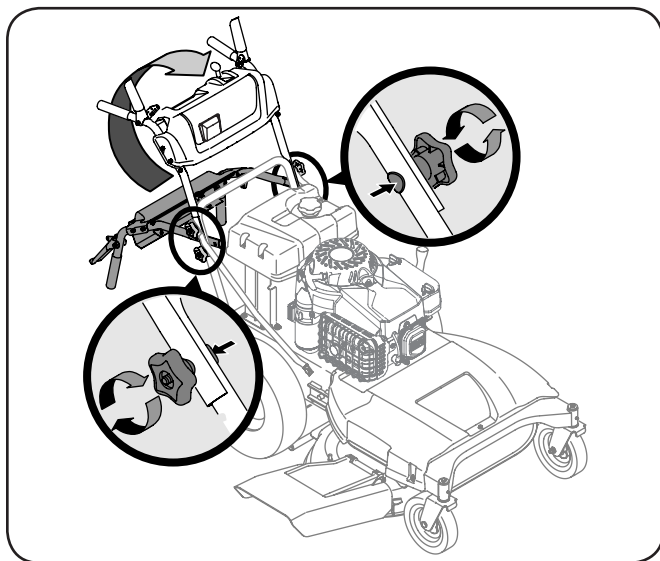

Figure 3-4
2. Pivot the upper handle into operating position. Be careful not to crimp cables. See Figure 3-4.
4. Tighten the upper and lower star knobs and carriage screws to secure the upper handle to the lower handle. See Figure 3-4.